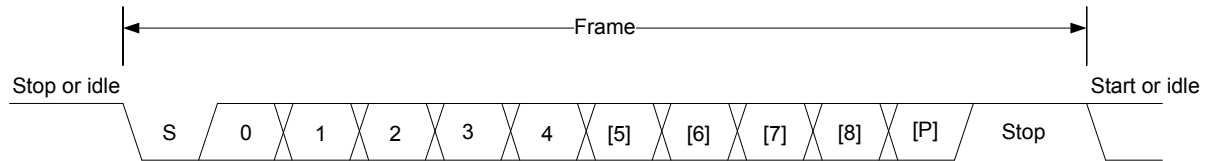

Figure 18.2. USART Asynchronous Frame Format
The frame format used in asynchronous mode consists of a set of data bits in addition to bits for synchronization and optionally a parity bit for error checking. A frame starts with one start-bit (S), where the line is driven low for one bit-period. This signals the start of a frame, and is used for synchronization. Following the start bit are 4 to 16 data bits and an optional parity bit. Finally, a number of stop-bits, where the line is driven high, end the frame. An example frame is shown in Figure 18.2 USART Asynchronous Frame Format on page 498.